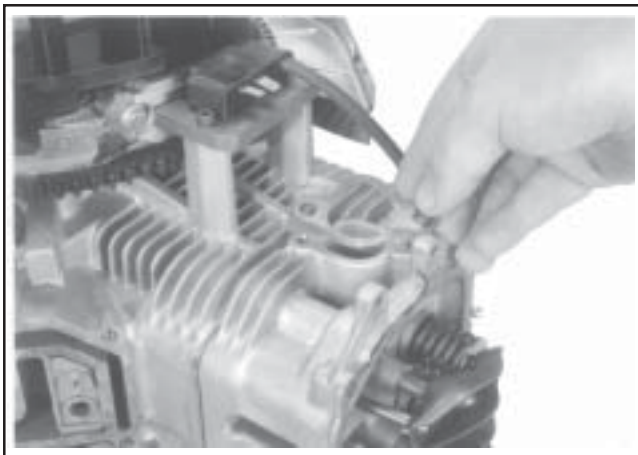
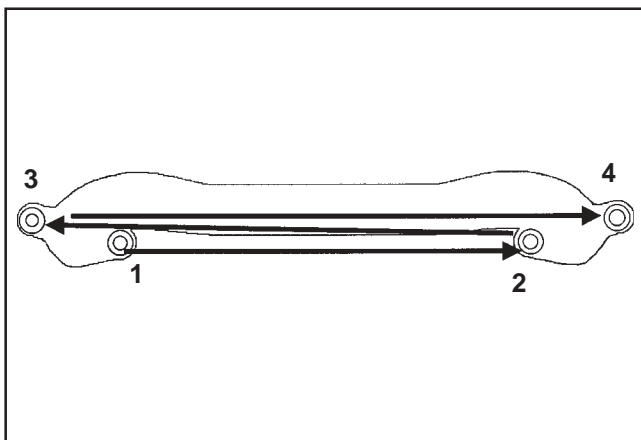

Figure 11-47. Installing Intake Manifold Gaskets.
Figure 11-49. Intake Manifold Torque Sequence.
1. Install the intake manifold and new gaskets or O-Rings (plastic manifold), with wiring harness attached, to the cylinder heads. Slide any wiring harness clips onto the appropriate bolts before installing. Make sure the gaskets are in the proper orientation. See Figures 11-47, and 11-48. Using the sequence shown in Figure 11-49, torque the four screws in two stages, first to **7.4 N·m (66 in. lb.)**, then to **9.9 N·m (88 in. lb.)**.